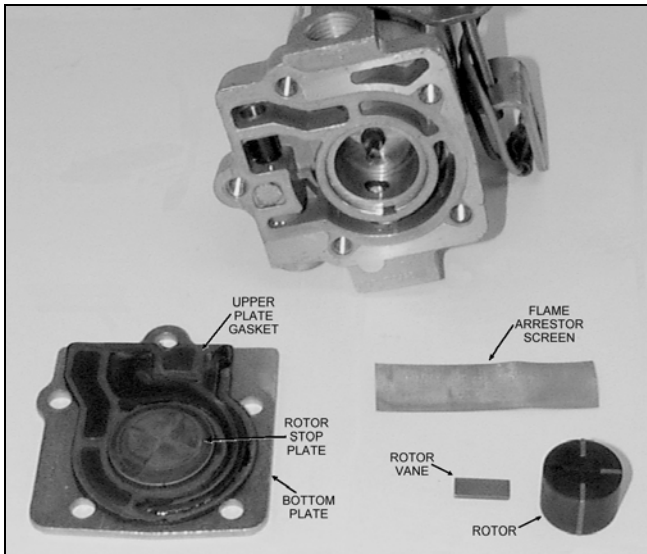

Figure 5
4. Remove the flame arrester (note the position of the screen). Remove the rotor vanes and rotor by inverting the pump. Lay all pieces on a flat clean surface. See Figure 5.